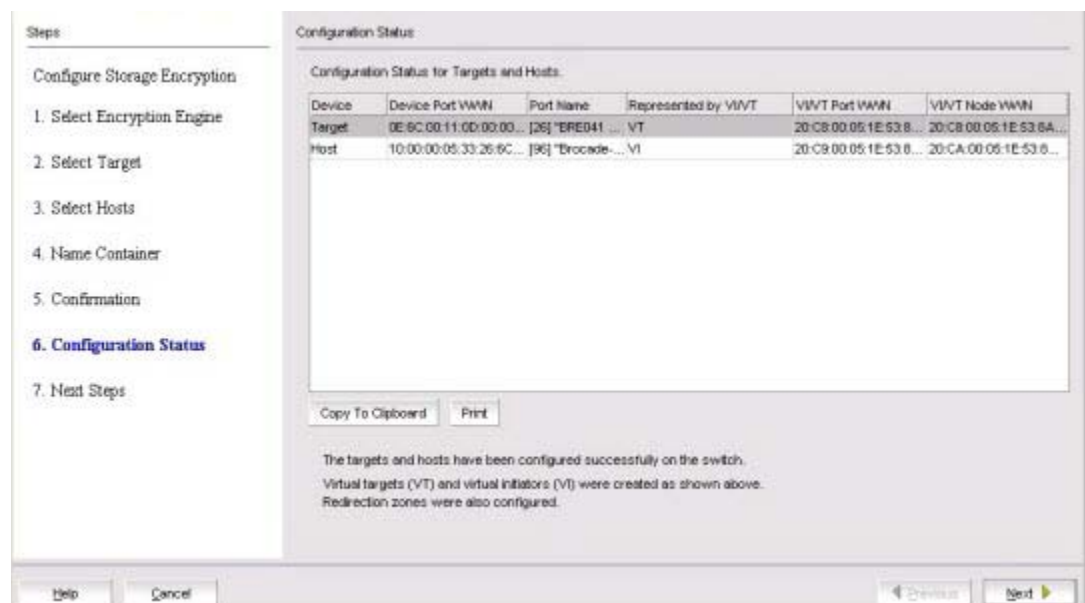

FIGURE 303 Configuration Status screen
The **Configuration Status** screen displays, which shows the status of the new container configuration. (Refer to Figure 303.) The target and host that are configured in the target container are listed, as well as the virtual targets (VT) and virtual initiators (VI).